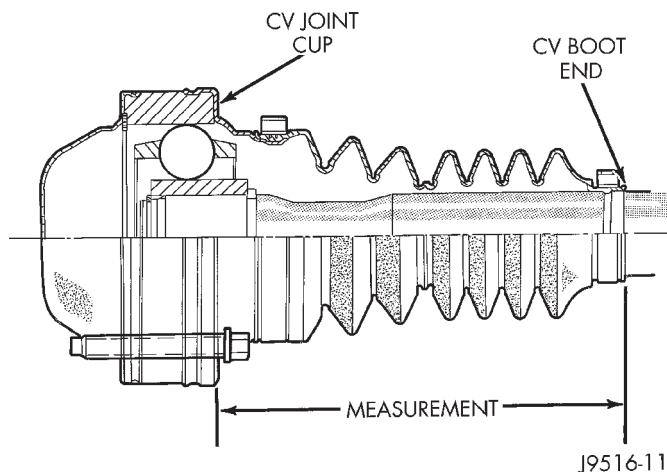
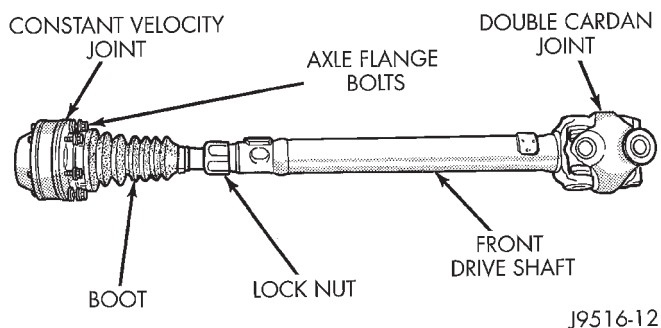

Fig. 15 Measurement
Fig. 16 Lock-nut
(1) Place vehicle on floor or drive-on hoist with full weight of vehicle on suspension.
(2) Take a measure from the CV-joint cup to the end of the CV-joint boot (Fig. 15).
(3) Adjust by loosening the lock nut and moving the one end of the shaft in or out of the other end.
(4) When the shaft is adjusted to the correct length (Fig. 15) 142.7 mm (5.61 in.) tighten the lock-nut (Fig. 16) to 115 N·m (85 ft. lbs.).